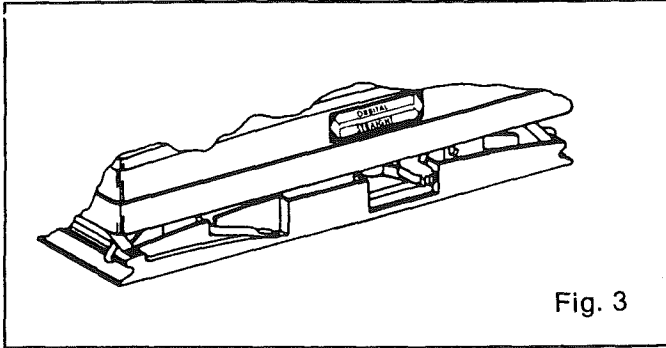

Fig. 3
3. For straight line motion slide lever forward as shown in Fig. 3.